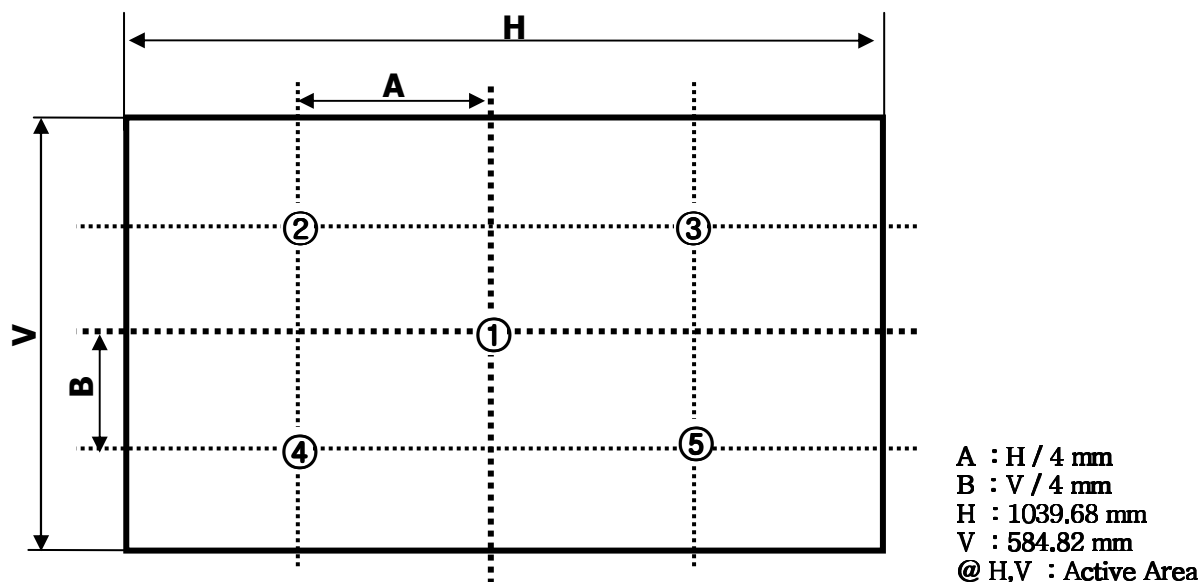

FIG. 2 Measure Point for Luminance
2. Surface luminance are determined after the unit has been 'ON' and 30min after lighting the backlight in a dark environment at $25 \pm 2^\circ\text{C}$. Surface luminance is the luminance value at center 1-point across the LCD surface 50cm from the surface with all pixels displaying white. For more information see the FIG. 2.
For more information, see the FIG. 2.(Black uniformity Spec is reference)